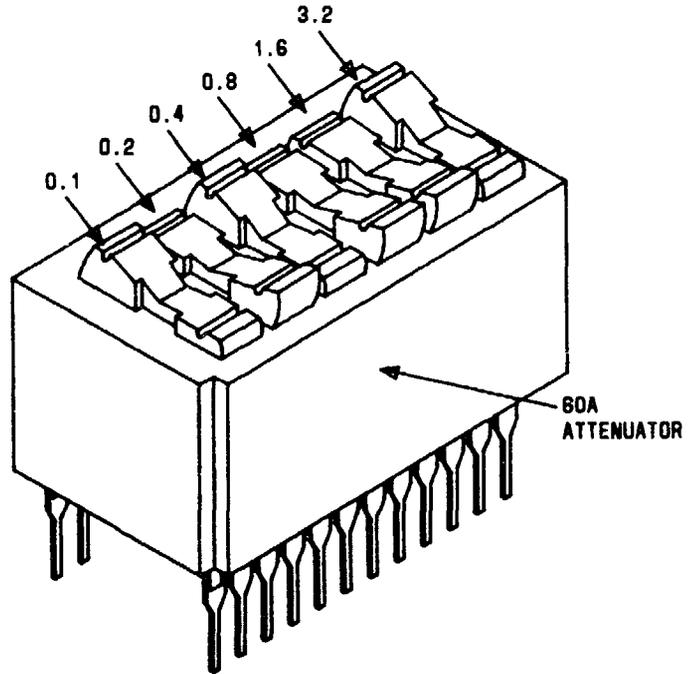

FIG. 2
- Rocker switch [FIG. 2 or 3] → Page 3